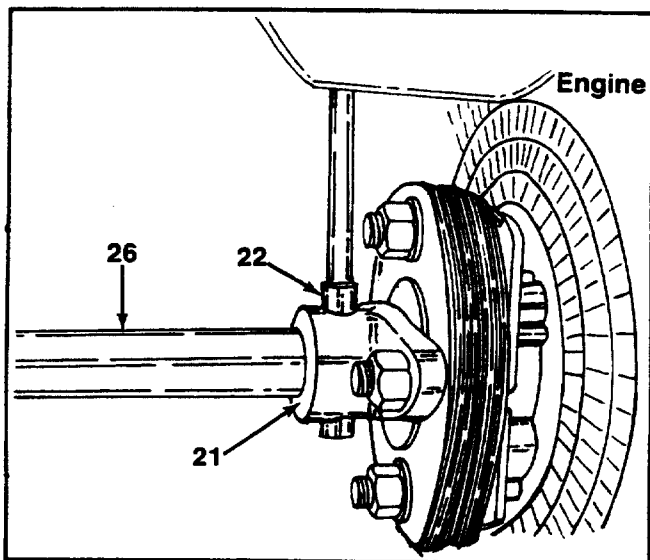

FIGURE 17.
20. Move to the front of tractor and remove the roll pin from casting (coupling) and drive shaft. See figure 17.